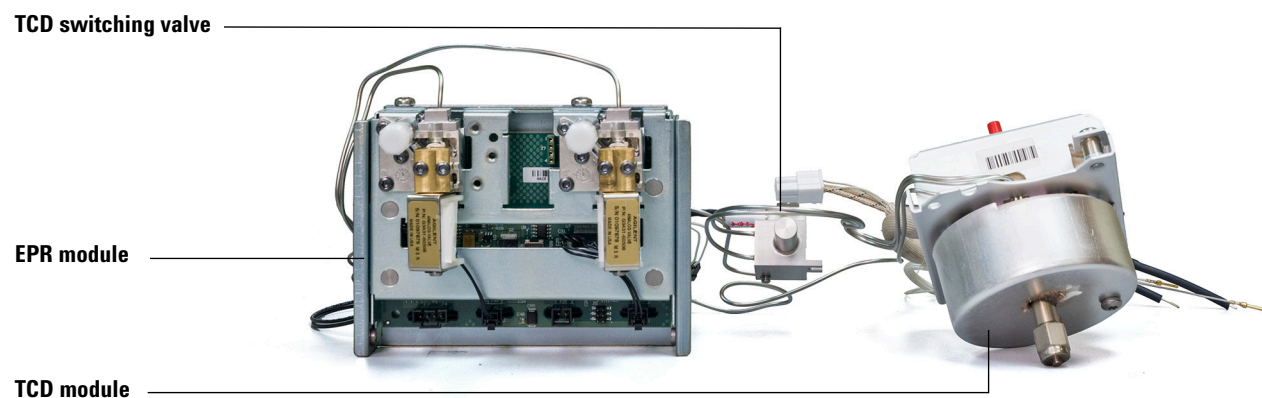

Figure 1 TCD parts identification
- 1 Carefully uncoil the tubing between the detector body, the TCD switching valve and the EPR module (see Figure 1 on page 3). Lay the entire assembly on the oven top with the detector near its intended location and the EPR module near its associated location in the EPR module bays.